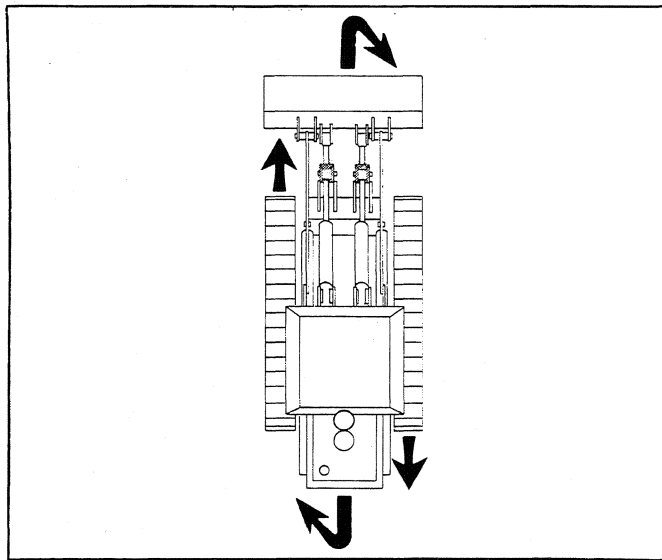

Fig. 6C
Fully depressing the pedal (C) the R.H. trackchain will reverse so making the machine turn rightwards on its own axis (fig. 6C).